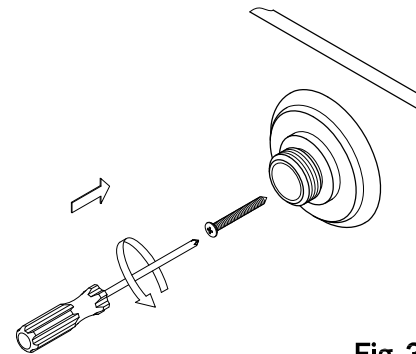

Fig. 3
- Step 4. Screw the wall bracket base into the wall with mounting screws, place the round cover over base and slide bracket in (Fig. 3).